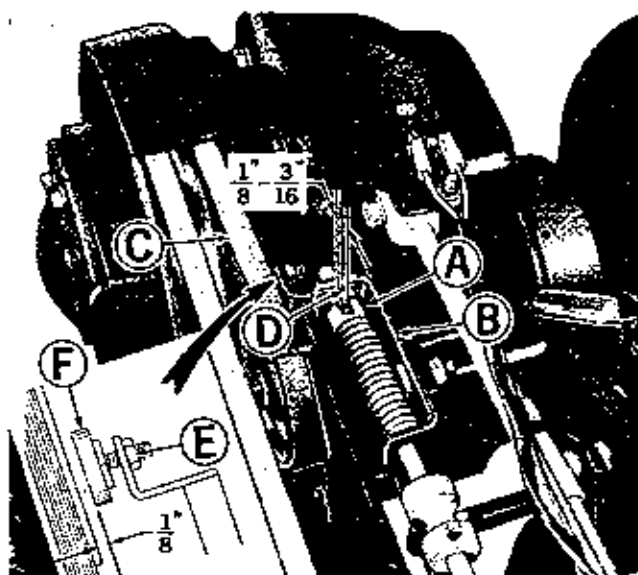

Figure 10. Shuttle drive forward adjustment.
5. See figure 10. Loosen nut (E) and turn brake pad (F) so there is  $\frac{1}{8}$ " clearance between the brake pad and the drive pulley. Tighten nut (E) securely.
6. See figure 10. Use the following procedures to adjust the forward clutch.
- b. See figure 10. Loosen the set screw in collar (A). Push the rod guide assembly (B) forward until slack is removed from the forward drive belt (C).
- e. See figure 10. The distance (D) between the rod guide and collar (A) should be  $\frac{1}{8}$ " to  $\frac{3}{16}$ ". If it is not, repeat steps a. through d. until distance (D) is  $\frac{1}{8}$ " to  $\frac{3}{16}$ ". Place more tension on belt (C) to increase distance (D) or less tension to decrease the distance.
Will not pull forward with full power. Repeat adjustment step 6 placing more tension on the clutch belt. (figure 10, item C).
Tractor creeps forward when control lever is in neutral. Repeat step 6 placing less tension on the clutch belt. (figure 10, item C).